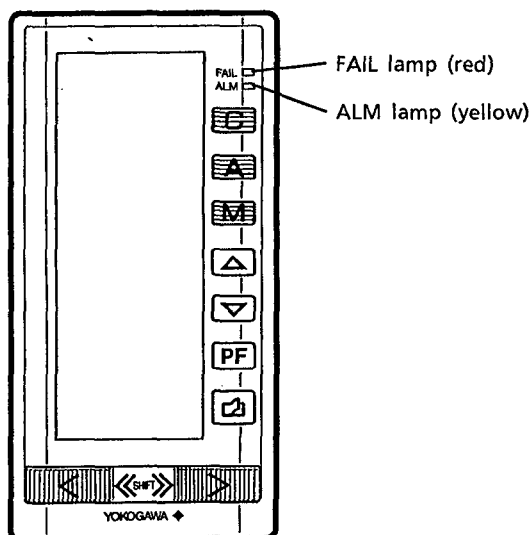

Figure 10.3 ALM Lamp and FAIL Lamp
(3) Alarm Check (See Figure 10.3)